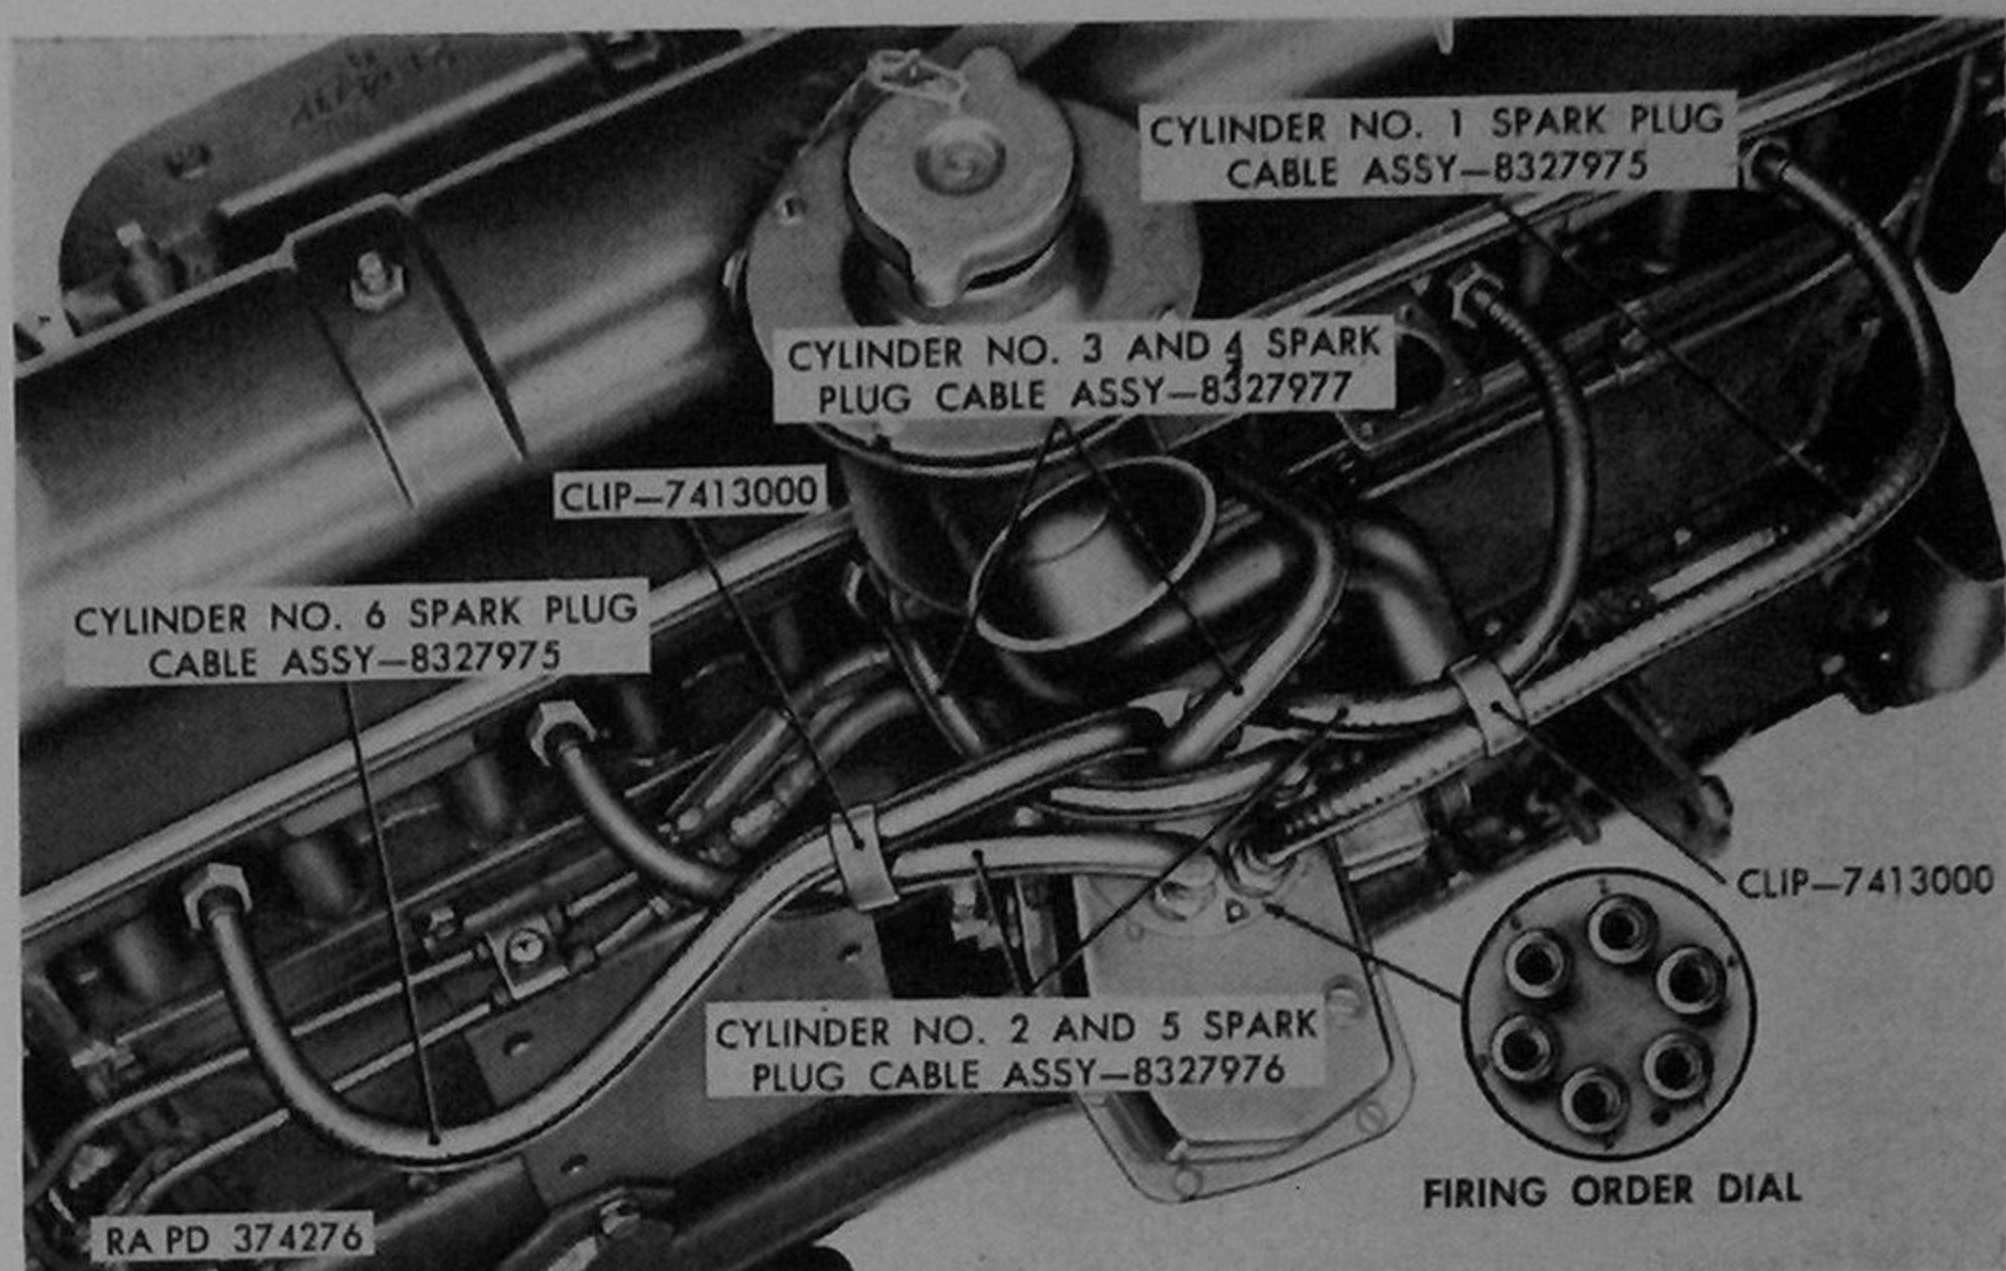

Figure 177. Spark plug cables installed—engine assembly 8726920 shown.
f. Make certain that ignition firing order dial (fig. 177) is in position on top of distributor cover, then connect spark plug cable assemblies to
g. Attach No. 1 and 2 spark plug cables and No. 5 and 6 cables together with clips (fig. 177).